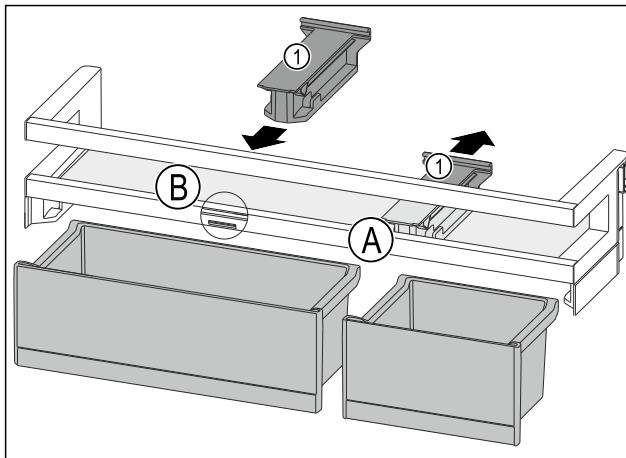

Fig. 93
- Take off the holding part Fig. 93 (1) in position Fig. 93 (A) backwards.
- Insert the holding part Fig. 93 (1) in position Fig. 93 (B).